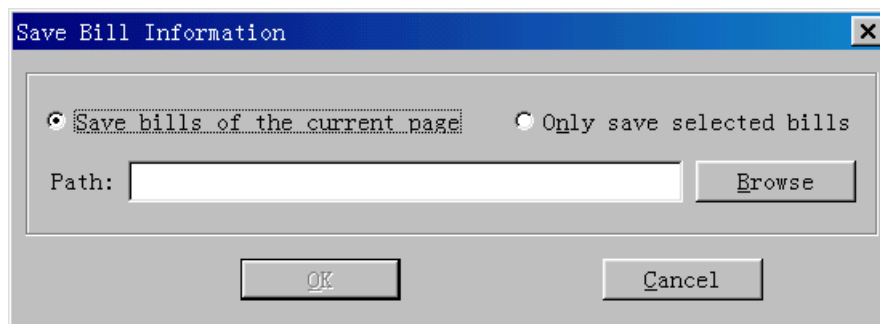

Figure 3-12 [Save Bill Information] dialog box
- 1) In the CDR browse state, select [Bill Info/Save], or click the  icon on the toolbar, or select [Save] from the right-click menu. The [Save Bill Information] dialog box is displayed, as shown in Figure 3-12.